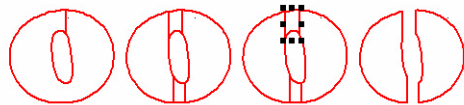

Figure 175
- 4 Remove unnecessary pieces by selecting the sections and deleting them. See figure 175.